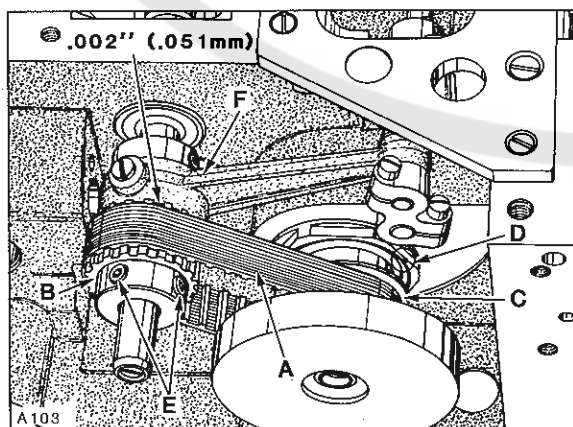

Fig. 4
NOTE: End cover has been removed for clarity in Figure 4, but **MUST BE IN POSITION WHILE MAKING THE FOLLOWING ADJUSTMENTS.**
Looper drive belt, (A, Fig. 4) has proper tension if, when turning handwheel in operating direction to position looper in the center of its (right to left) travel...there is no noticeable (right to left) play in the looper mechanism. There should be approximately 1/8 inch (3.2mm) deflection in looper drive belt when pressing firmly with thumb, midway between sprockets (B and C). Adjustment can be made by loosening two screws (A, Fig. 5) and turn looper module (D, Fig. 4) counterclockwise to tighten belt or clockwise to loosen, as viewed in Figure 4. Retighten screws (A, Fig. 5).
Rotate handwheel in REVERSE direction until pin in looper holder again makes contact with gauge plate and note the reading on the gauge. A variation of (1) graduation on the scale is permissible. If the reading is above "0", loosen screws (E, Fig. 4) and turn rear looper drive sprocket (B) towards the operator (clockwise as viewed in Figure 4). If the reading is below "0", turn sprocket away from operator (counterclockwise as viewed in Figure 4). Temporarily snug screws.
Rotate handwheel in OPERATING direction until pin in looper holder contacts gauge plate and note the reading on scale. If the reading is above "0", loosen screws (E) and turn sprocket (B) away from operator (counterclockwise as viewed in Figure 4). If the reading is below "0", turn sprocket towards the operator (clockwise as viewed in Figure 4). Temporarily snug screws.
the left side of needle and check the distance from the eye of needle to the bottom of looper blade. If the distance was greater when handwheel was turned in operating direction, (as viewed in sketch B) loosen screws (E, Fig. 4) and turn rear looper drive sprocket (B) away from operator (counterclockwise as viewed in Figure 4).
If the distance was greater when handwheel was turned in reverse direction, (as viewed in sketch C) turn sprocket towards the operator (clockwise as viewed in Figure 4). Temporarily snug screws. Continue to check and adjust in both OPERATING and REVERSE directions until the distance from the eye of
the needle to the bottom of looper blade is the same in either direction (as viewed in sketch D). Before tightening screws (E, Fig. 4) securely, be sure to have .002 inch (.051mm) clearance between sprocket (B) and needle guard drive connecting rod (F).